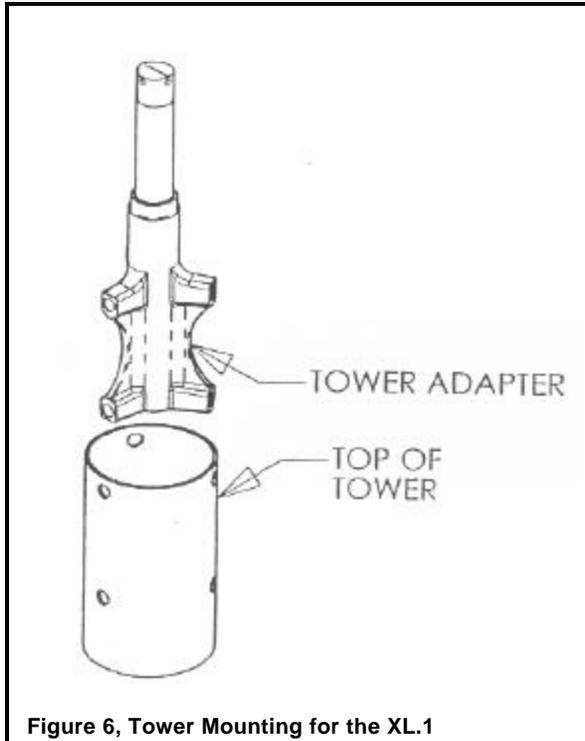

Figure 6, Tower Mounting for the XL.1
**Tower Mounting:** The XL.1 wind turbine is attached to its tower by a three-sided, six fastener casting, shown in Figure 6, that is designed to fit inside a tube with an inner diameter of 108 mm (4.25 in). (Note: XL.1's shipped prior to September 2003 were built to fit a tube with an 85 mm (3.35 in) inner diameter.)